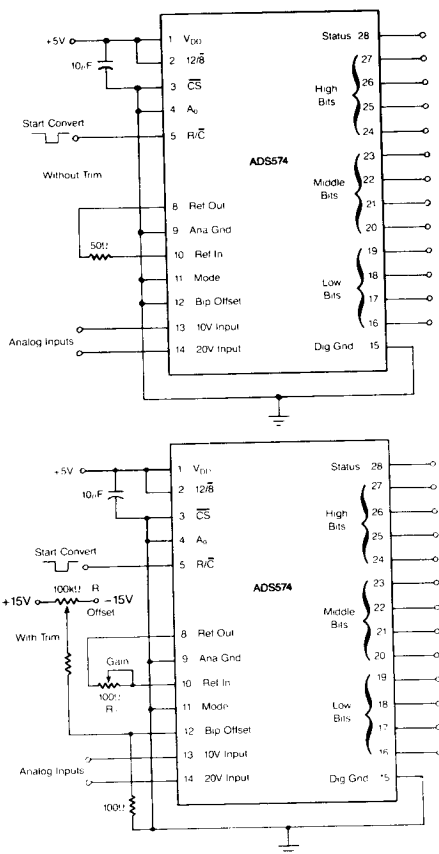

Figure 7. Unipolar Connections
**UNIPOLAR OPERATION AND CALIBRATION** — Analog input connections and calibration circuits for the unipolar operating mode are shown in Figure 7. If the 0 to +10V input range is to be used, apply the analog input to Pin 13. If the 0 to +20V input range is to be used, apply the analog input to Pin 14. If the gain adjustment is not needed, replace trim potentiometer R2 with a fixed, 500  $\Omega$   $\pm$ 1% metal-film resistor to meet all published specifications. If the offset adjustment is not needed, connect Pin 12 (Bipolar Offset) directly to Pin 9 (Analog Ground).